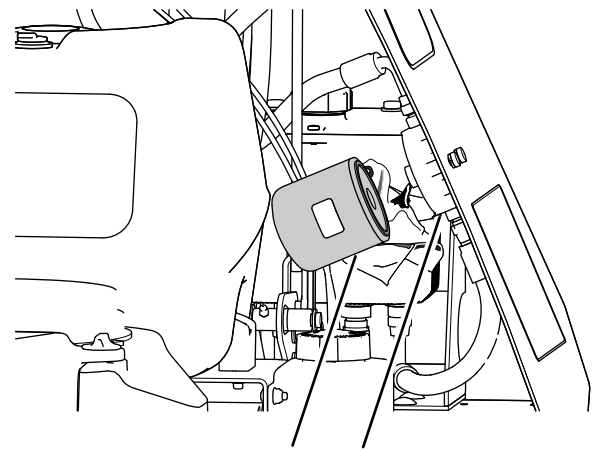

Figure 66
- Rotate the auxiliary hydraulic filter counterclockwise and remove it from the base of the filter adapter (Figure 66). Allow the fluid to drain.
- Install the filter by rotating it clockwise onto the filter adapter until the seal contacts the filter adapter, then tighten the filter an additional 2/3 to 3/4 turn (Figure 66).